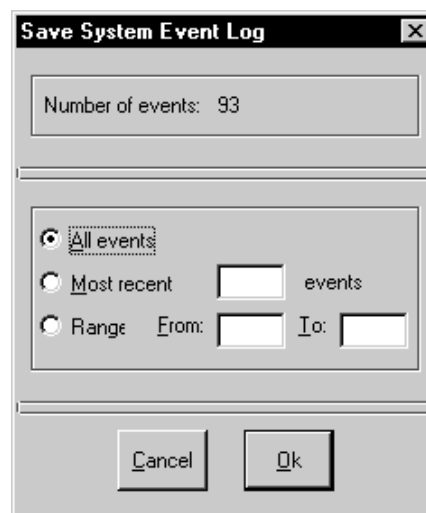

Figure 7-26. Save System Event Log Window
1. From the System Event Log window select **Options>Save as Text**. Figure 7-26 displays.